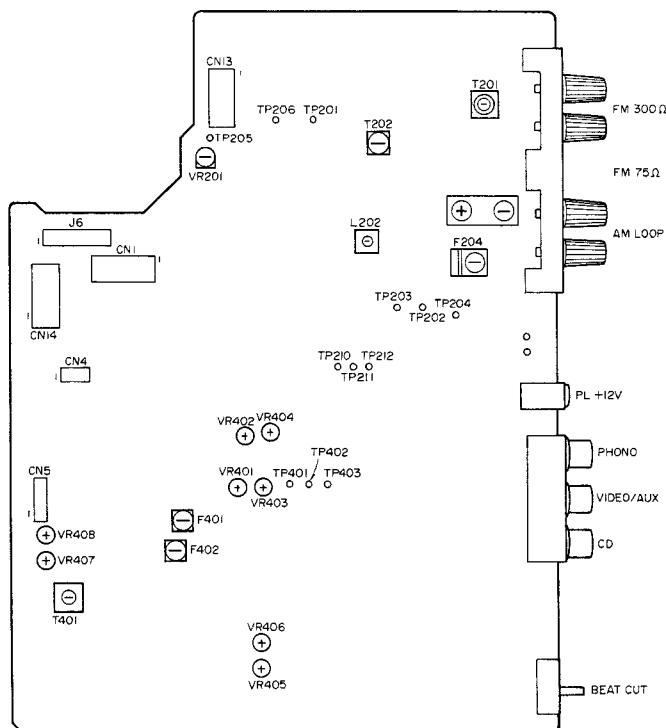

Fig. 7-1 Adjustments point
• Adjustment point are as shown in Fig. 7-1
- Adjustment point are as shown in Fig. 7-1